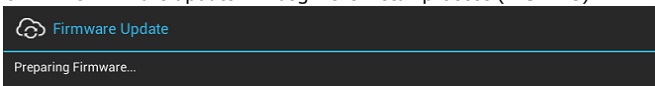

FIG. 125 Firmware Update - Preparing Firmware
6. The firmware update will begin the install process (FIG. 125):